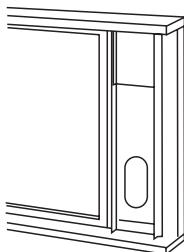

Fig. 16
3. Cut the foam seal (adhesive type) to the proper length and attach it on the top of the window. Shown as in Fig.16.